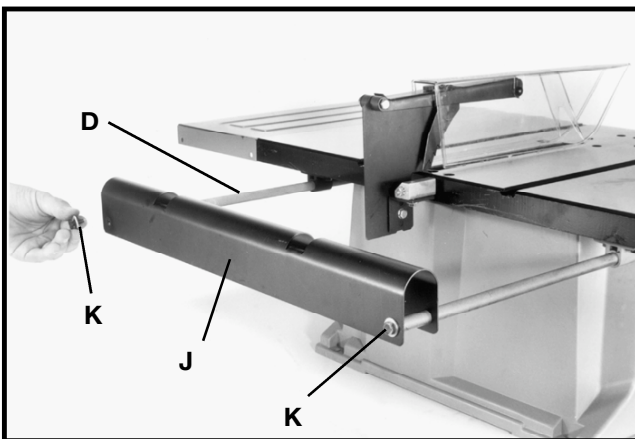

Fig. 32
4. Secure outfeed support (J) Fig. 32, to rods (D) using two 1/4-20x1/2" hex head screws and 1/4" flat washers (K) as shown.